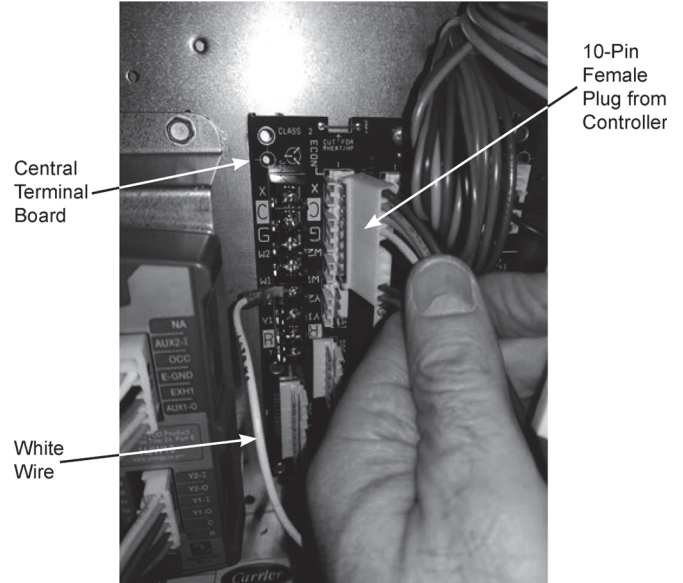

Fig. 10 — Connect 10-Pin Plug to Central Terminal Board
13. Connect the 10-pin female plug from the controller harness to ECON on the CTB. See Fig. 10 and 23.
14. Connect the White wire from the controller harness to the W1 terminal on the CTB. See Fig. 10 and 23.